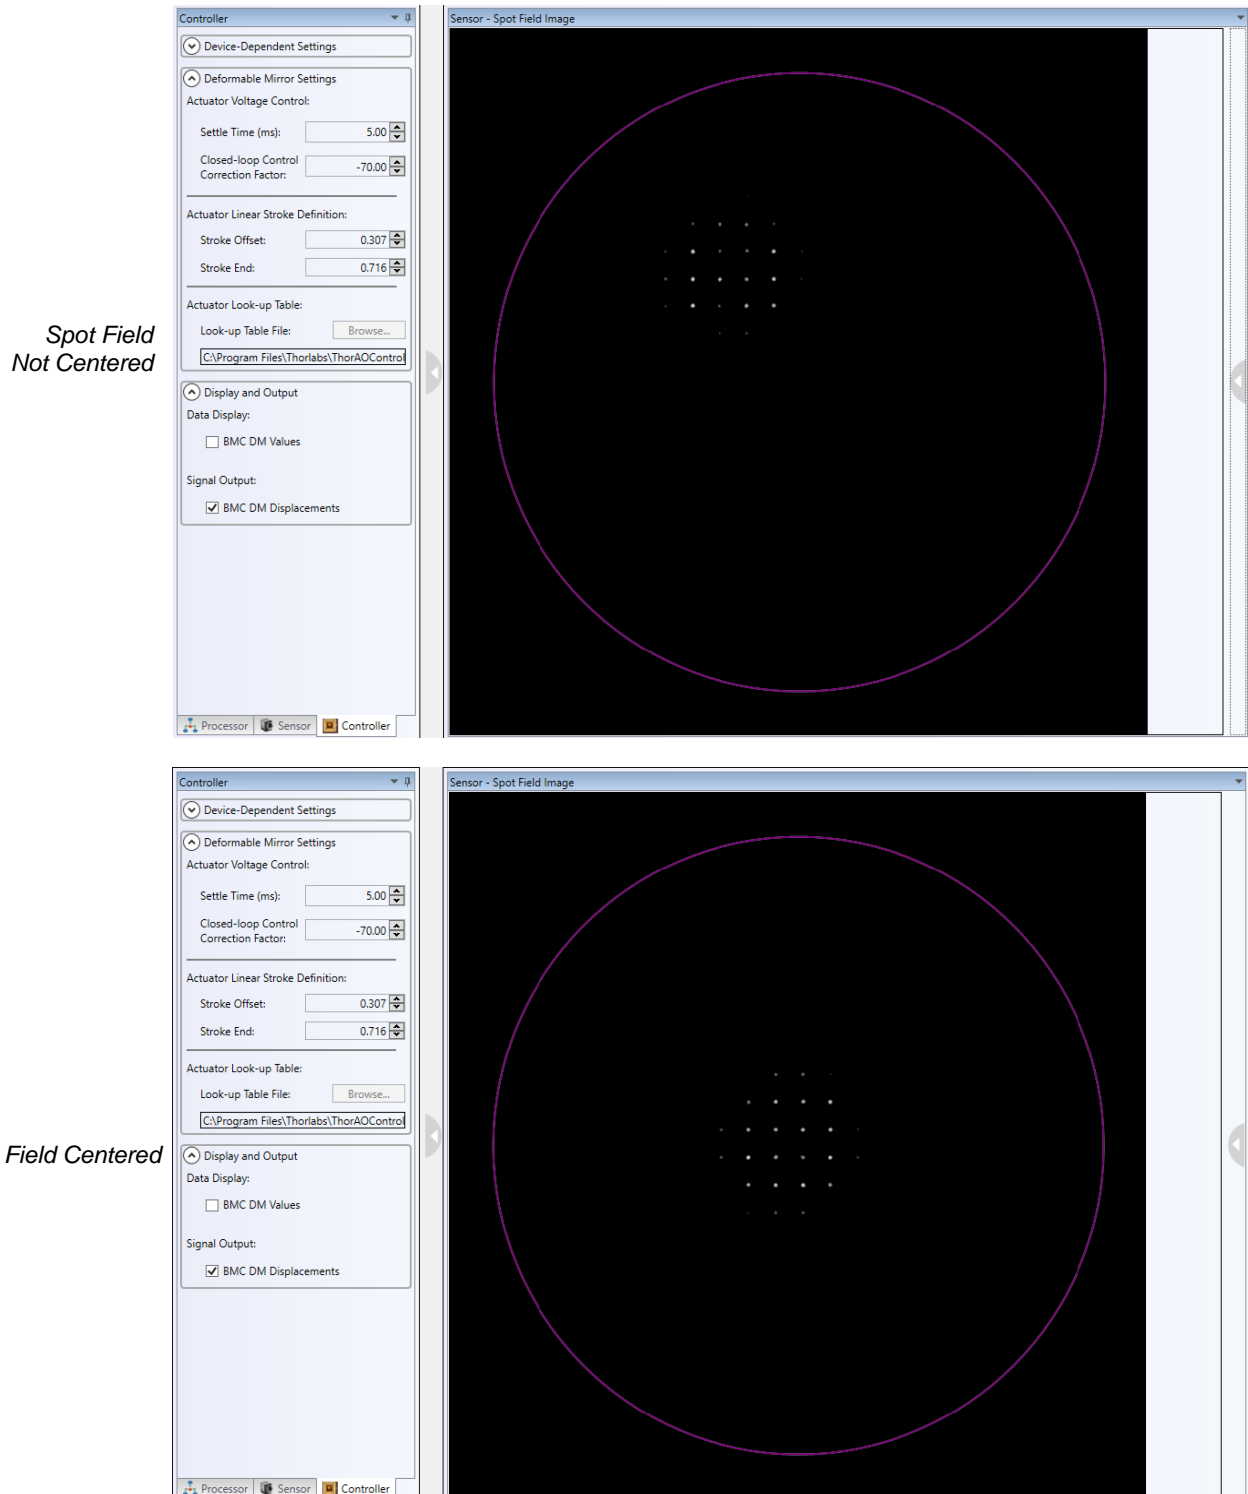

Figure 174 Spot Field Distribution Window
- 3) Adjust the spot distribution field of the SH such that the spots are centered on the spot field tab of the SH window. Figure 174 below shows how the spot distribution should be centered in the spot field tab screen.
- 4) While monitoring the wavefront tab of the SH window (refer to Figure 174), adjust the pitch and yaw of the SH mount such that the wavefront flattens. The default setting for the wavefront display is auto-ranging, so the wavefront will never appear absolutely flat. However, with all CPA1's removed from the system, the peak-to-valley deviation of the wavefront should be less than 1 micron if things are aligned properly.